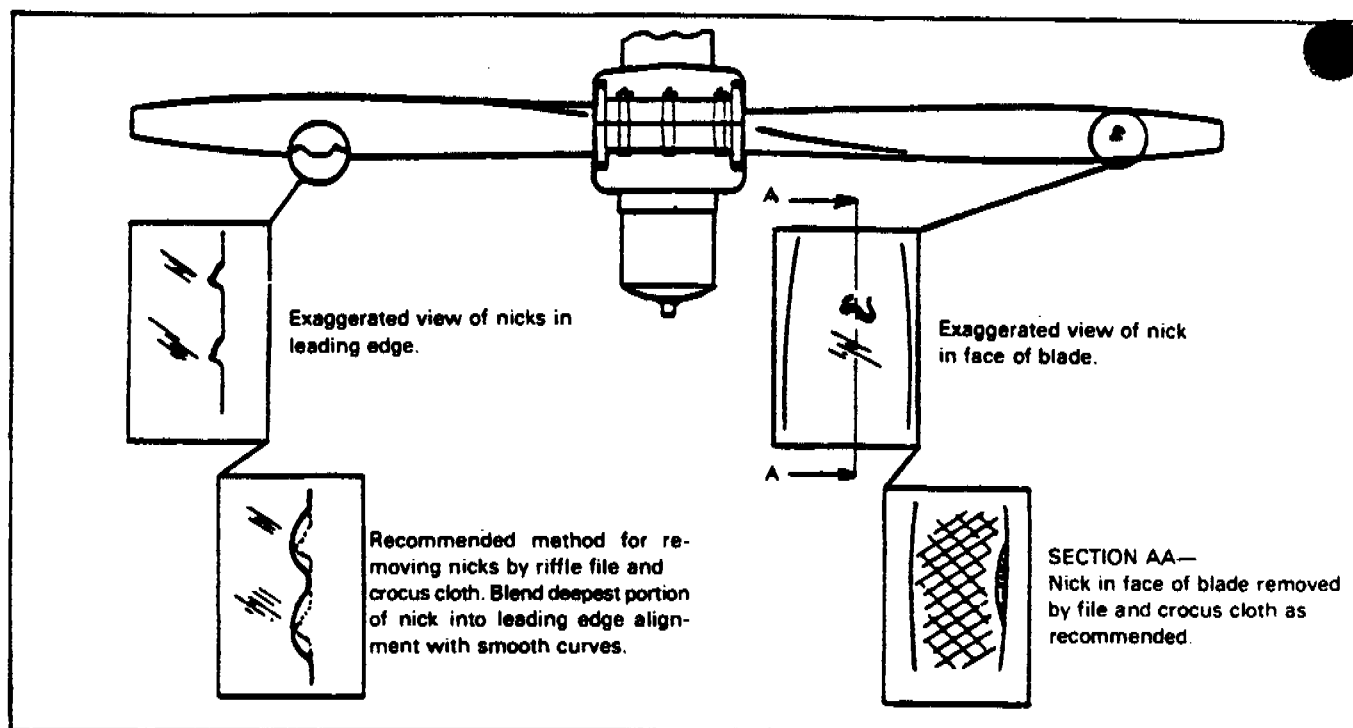

FIGURE 7-2. TYPICAL NICKS AND REMOVAL METHOD
- g. Inspect blades for damage or cracks. Nicks in leading edges of blades should be filed out and all edges rounded, as cracks sometimes start from such places. Use fine emery cloth for finishing. Refer to Figure 7-2 for propeller blade care.